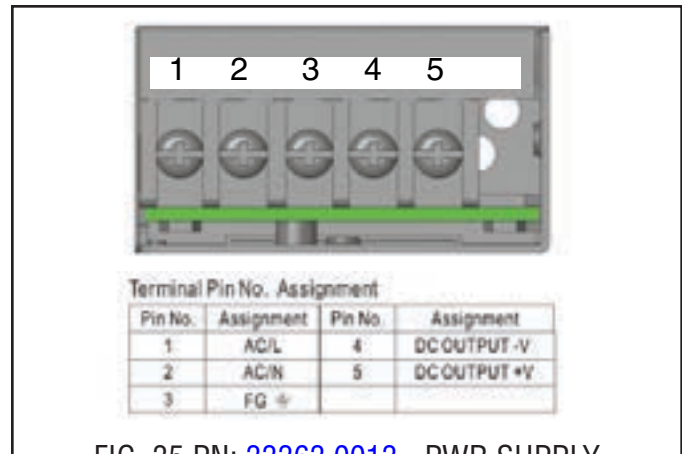

FIG. 35 PN: 33363.0013 - PWR SUPPLY
1. Check power supply L & N terminals for incoming AC power. See FIG. 35 or 36.